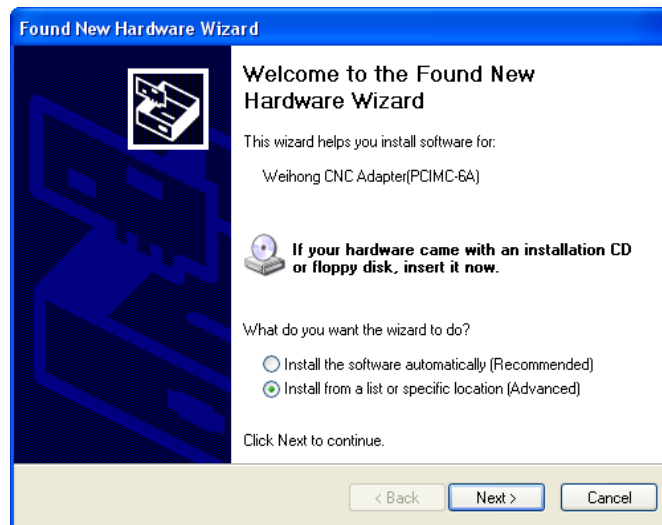

Fig. 2-8 Hardware update interface
1. Right click My Computer, select “Properties”, and then click “Device Manager”. Choose “CNC Adaptor” item, right click on it and select “Update Driver Software...” The hardware wizard dialog box will pop up as shown in Fig. 2-8.